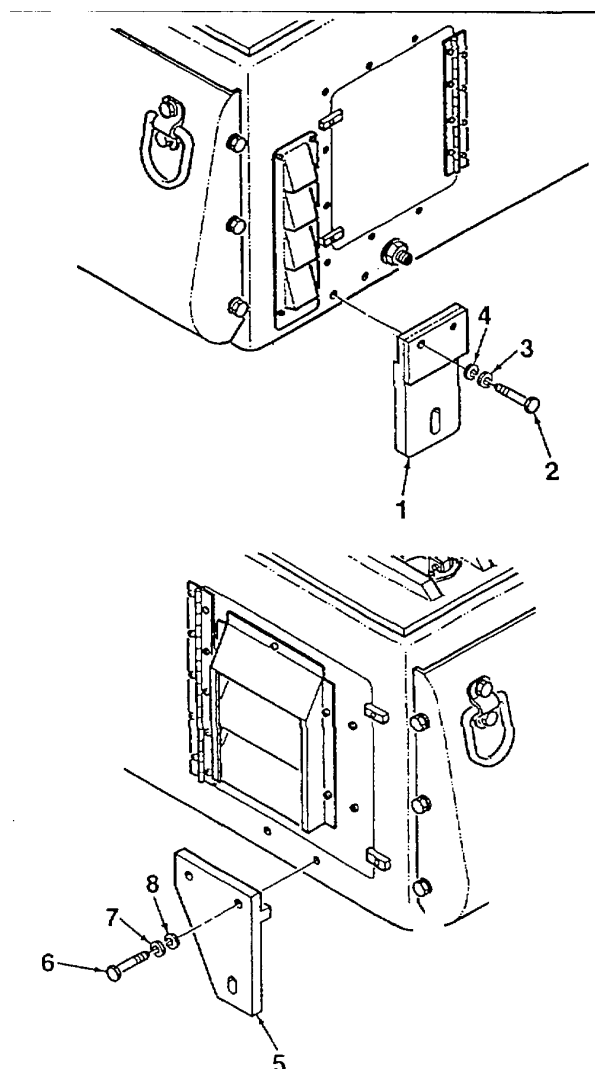

Figure 4-9. APU Mounting Brackets
1. Remove APU mounting bracket (1, Figure 4-9) from left side panel by removing bolts (2), lockwashers (3), and washers (4).
2. Remove mounting bracket (5) from right side panel by removing bolts (6), lockwashers (7), and washers (8).